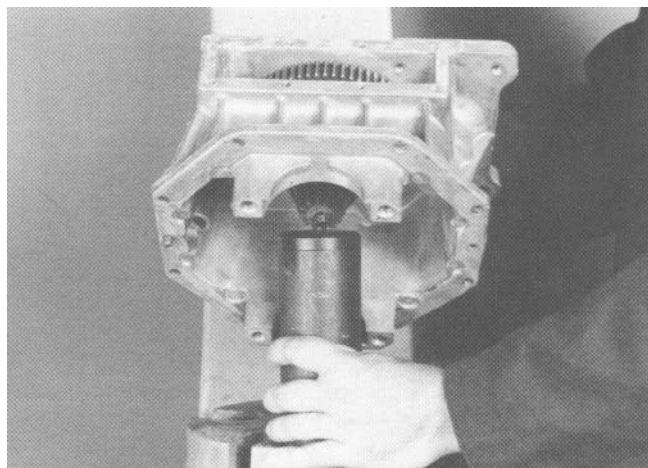

Figure 42
7. Support the drive pinion in a suitable press (Fig. 42).